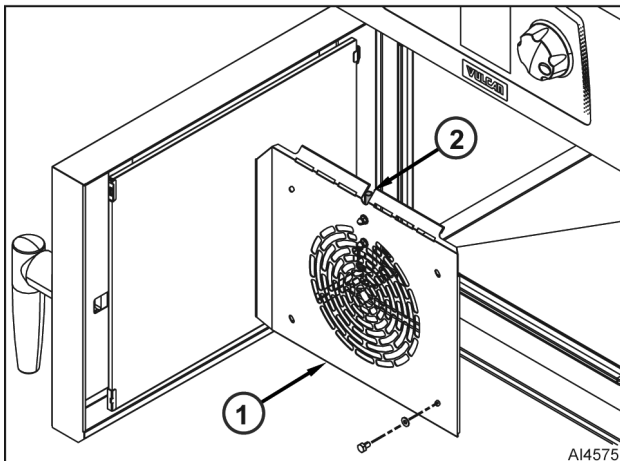

Fig. 26
NOTE: Pull baffle plate out from bottom so water dispenser tube (2, Fig. 26) disengages from fluid manifold
2. Remove bolts, washers, and baffle plate (1, Fig. 26) from oven cavity.
NOTE: Use wrench to hold backing nut (1, Fig. 26) in place when removing leads / nuts (2) from heating elements.